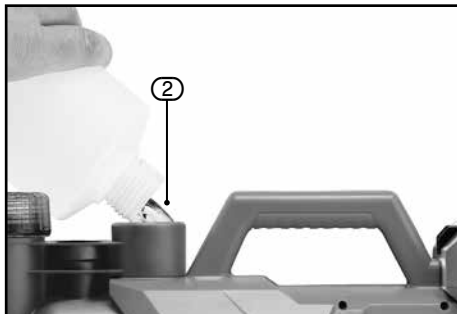

FIG.9
10.1 'PRIMING' THE PUMP – FIG.9
- Before operating the pump, it should be 'primed' with water, which is added through the priming hole (2).